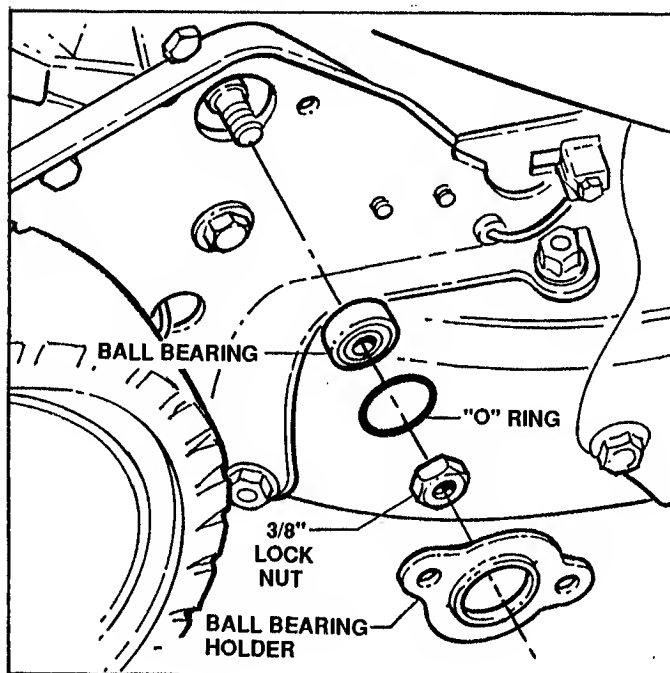

FIGURE 3.19
- (b) Remove the 3/8" hex lock nut which is located on the outside of the right wheel bracket. See Figure 3.19.